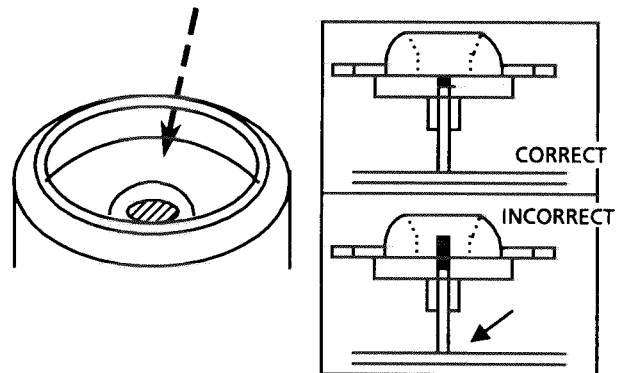

Fig. 45
- (32) After inserting the turntable, bond the motor shaft and turntable together (at the section marked by an arrow in fig 45 on the left below).
Be extremely careful not to allow bonding agent to adhere to the motor bearing (the section marked by an allow in fig. 45 on the right).